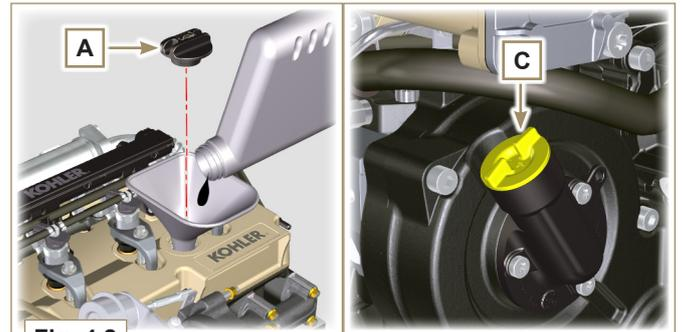

Fig. 4.2
- 4 - Re-tighten the cap **A** and/or **C** (Fig. 4.2).